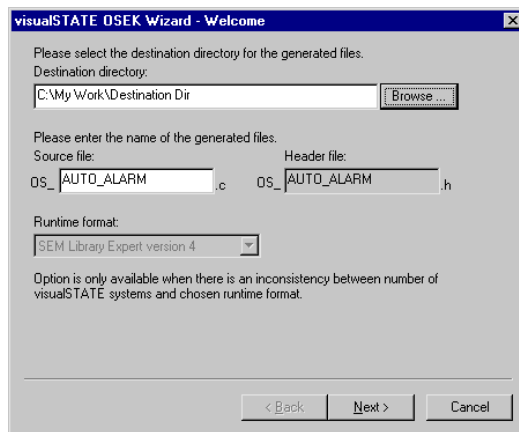

Figure 211: OSEK wizard, first page
The visualSTATE OSEK wizard is started which will load the specified OIL file. See *Figure 211*, page 315.
- The two ANSI C files generated by the visualSTATE OSEK wizard (prefixed `OS_`). The files are found in the destination directory you specified on the first page of the visualSTATE OSEK wizard (see *Figure 211*, page 315).